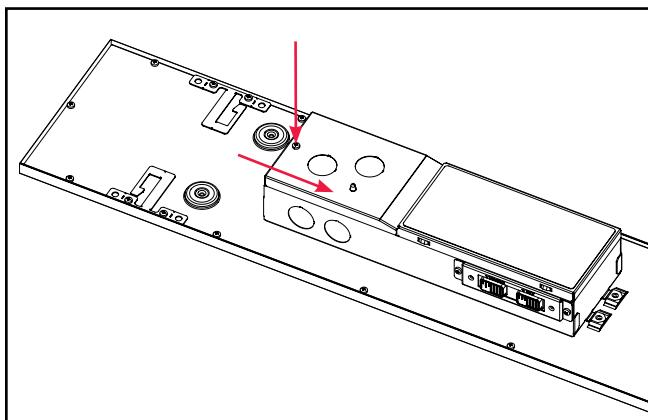

Figure 6.
8. Tuck all wires and wire nuts into the fixture junction box, replace electrical access plate, and fasten screw. (Figure 6.)